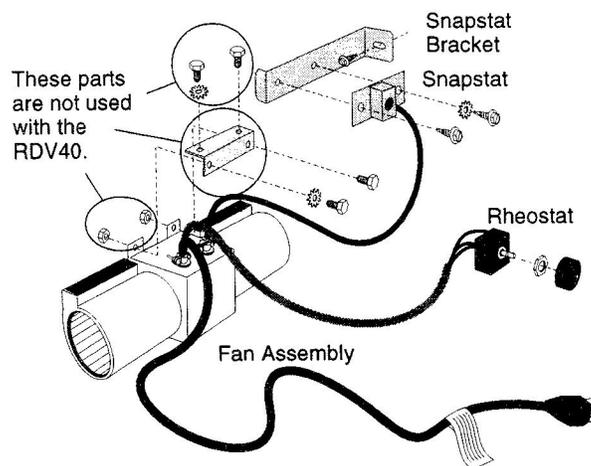

Figure 18. Fan Kit #2767 components.
Contents: See Fig. 18.
- 4. Attach the snapstat to the snapstat bracket.** Use two sheet metal screws and one #8 star washer. Fig. 18.